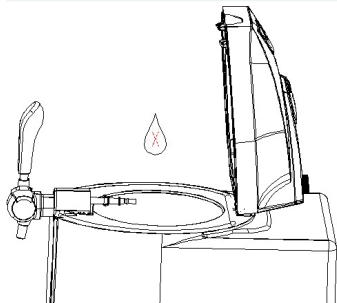
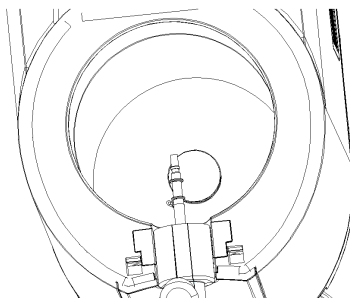

Figure 3
Figure 4
5. Cooling cavity of beer cooler cannot put into water (as shown in figure 3). Use dry clothes to clean the water in-and-out cavity surface (as shown in figure 4). Make sure that there is nothing in the cooling cavity, or it will effect the weight sensor.